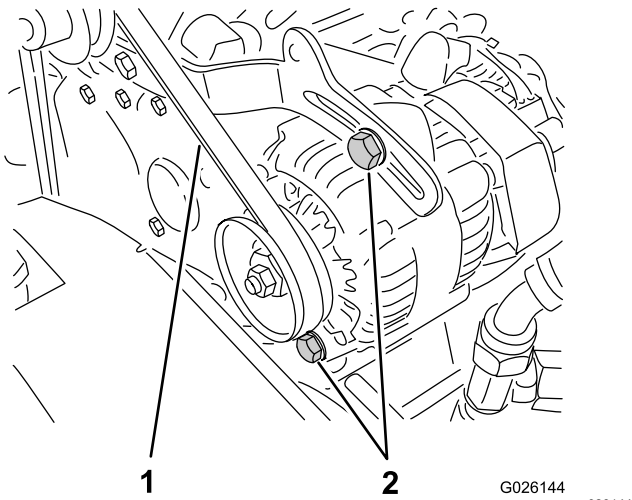

Figure 63
2. Check the tension by pressing the belt at mid span between the crankshaft and alternator pulleys with 10 kg (22 lb) of force (Figure 63).
- A. Loosen the 2 alternator-mounting bolts (Figure 63).
- B. Using a pry bar, rotate the alternator until the proper belt tension is attained, then tighten the mounting bolts (Figure 63).